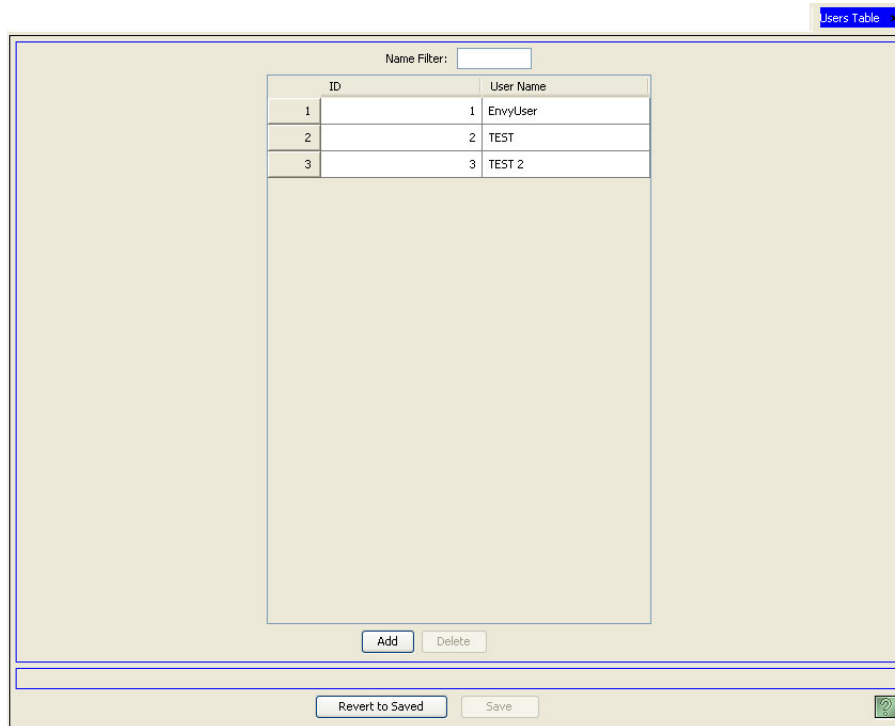

Figure 19-3. Users Table
- 2 From the Navigation area, select the 'Views' pane and then 'Users'. The 'Users' table appears, as shown in Figure 19-3.